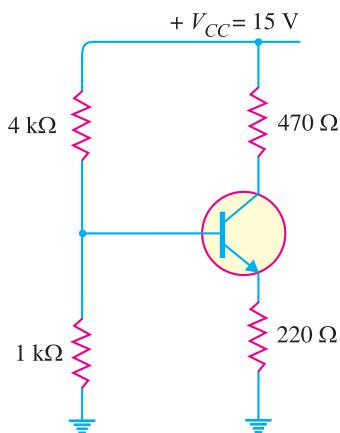

Fig. 9.50
7. In the transistor circuit shown in Fig. 9.50, find the operating point. Assume the transistor to be of silicon. [I_C = 10.5mA, V_{CE} = 7.75V]